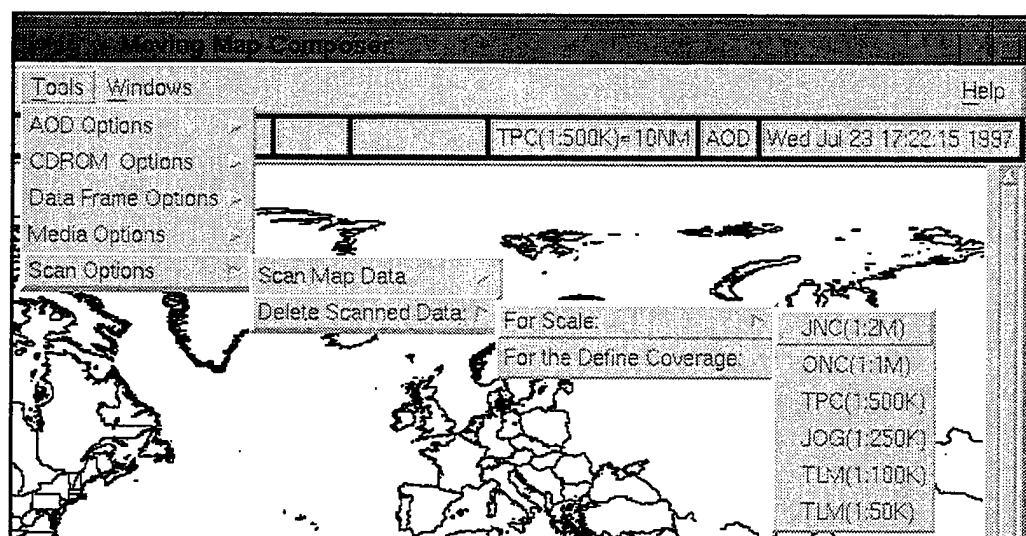

Fig. 66 — Delete all scanned data (for a given scale) from the MMC hard disk
- (1) To delete all scanned data (at a given scale) from the hard disk, click on *Tools, Scan Options, Delete Scanned Data, For Scale*, then the scale to delete (Fig. 66). MMC will request verification; click on *Continue* to proceed or *Abort* to cancel. If this scanned data has not been archived to CD, MMC will display a warning; click on *Delete Anyway* to